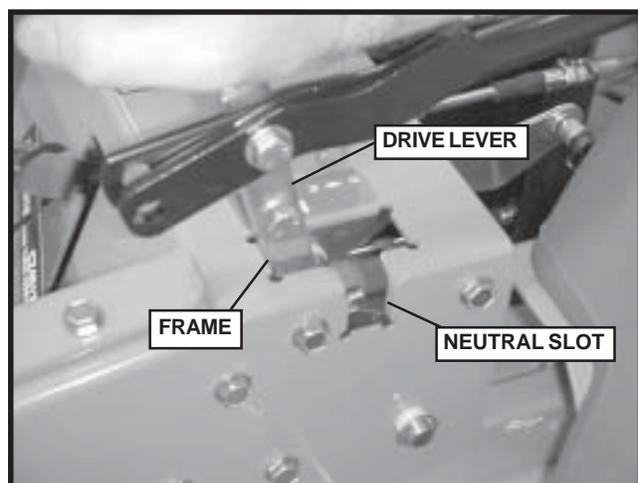

FIGURE 14
1. Make sure the drive levers are bottoming out on the frame and not the cable when pushed all the way forward. See Figure 14.